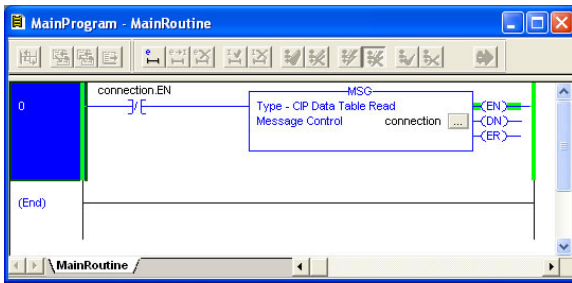

Figure 103: Complete Program
6) The program is now complete. Refer to Figure 103.